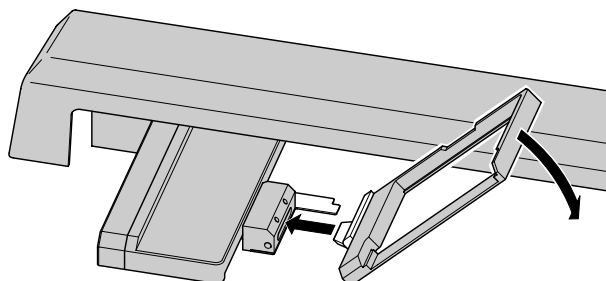

Figure 22 Inserting the collector into PALM RoboMover
- Insert the collector into PALM RoboMover as shown in Figure 22.